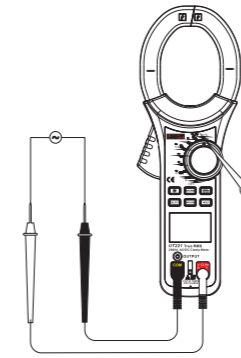

Figure 8
6. Frequency measurement(Hz) (See Figure 8)